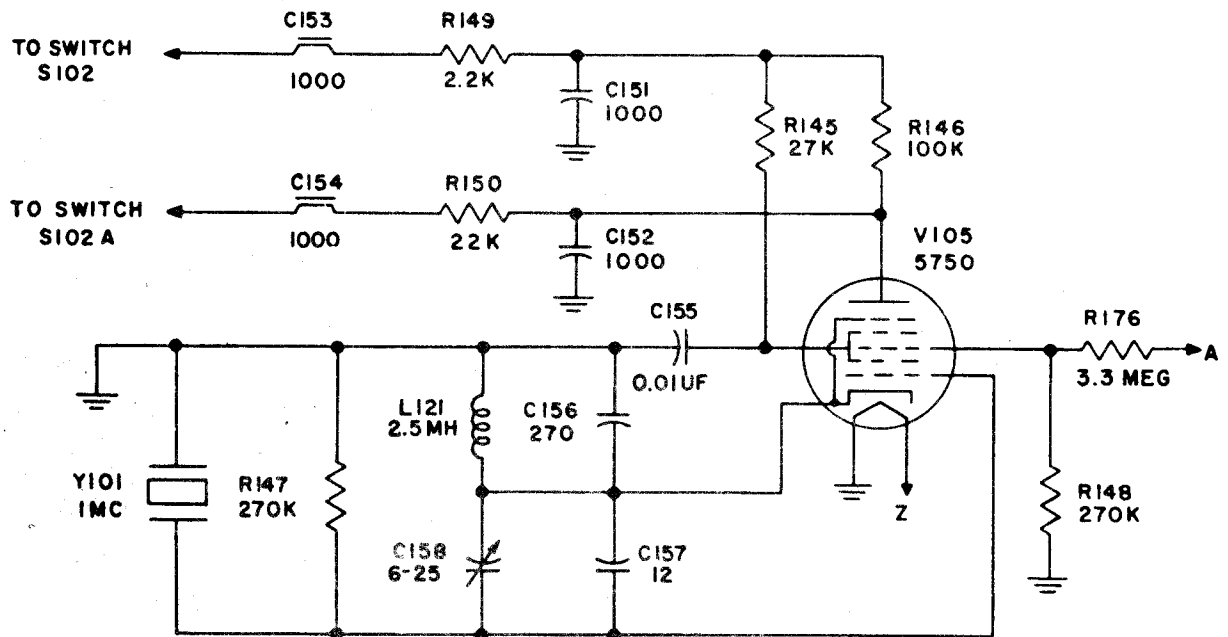

Figure 2-9. Simplified Schematic Diagram of the Crystal Calibrator
b. CRYSTAL CALIBRATOR (See figure 2-9).